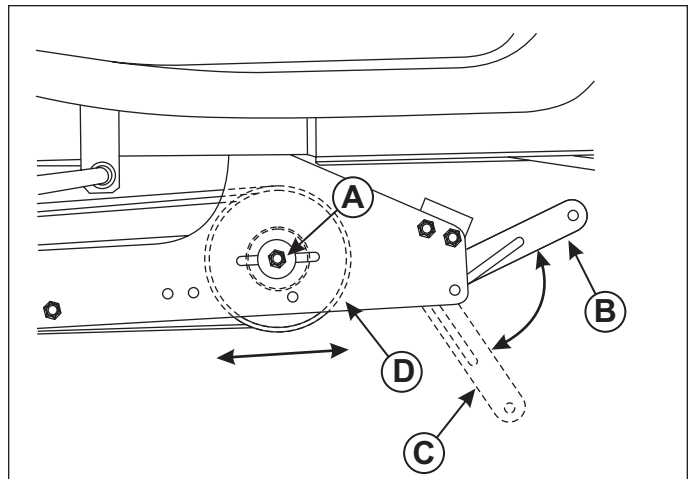

Figure 6. Belt Tension Adjustment
1. Loosen bolt (A, Figure 6) on idler pulley (D), located on the left side of the hitch assembly.
2. Move belt tension lever to the released position (C).
3. Move idler pulley (D) backwards or forwards to adjust snow thrower drive belt tension.
4. Move belt tension lever to the locked tension position (B).
1. Move tension release lever to the released position (C, Figure 6).
5. Move the belt tension lever to the locked position (B, Figure 6).